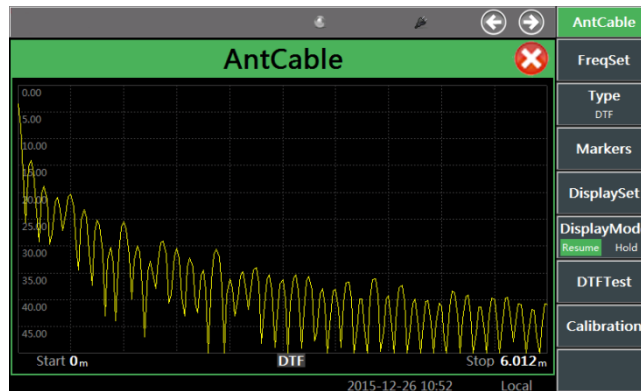

Fig. 4-20 DTFMeasurement Window
- Window opening: open the cable test window by pressing the [Cable] hard key or pressing the [Measurement] hard key and setting the instrument menu. Press the [Full Screen] hard key in the lower part of the screen to maximize the window, as shown in Fig. 4-20.
- Menu calling: click the touch screen, select the cable test as the current active window, and the corresponding menu will be displayed in the right side of the window, as shown in Fig. 4-20.